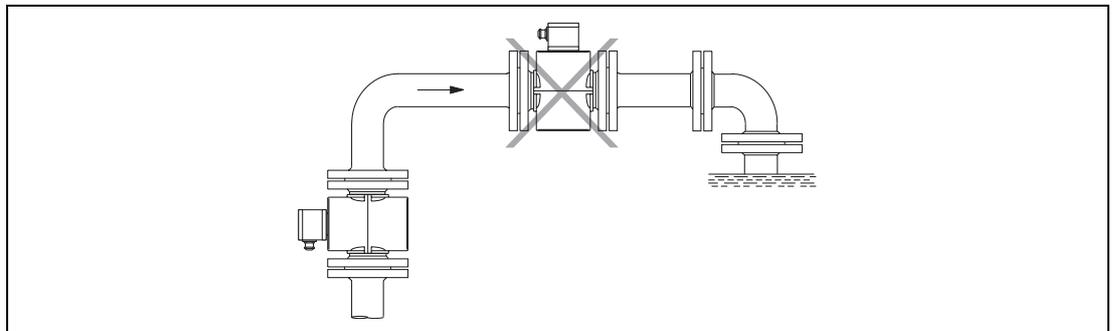

Fig. 9:
- For free outflow do not install instrument at the highest point or in the drop line (meter pipe may drain, air bubbles), (Fig. 9.)